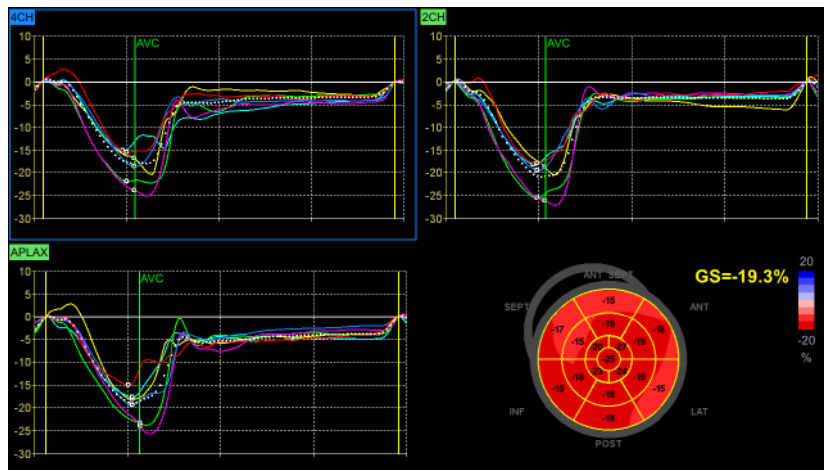

Figure 8-22. Bull's Eye and Traces screen
1. Press **BE+Traces**. The *Bull's Eye and Traces* screen is displayed (see Figure 8-22).